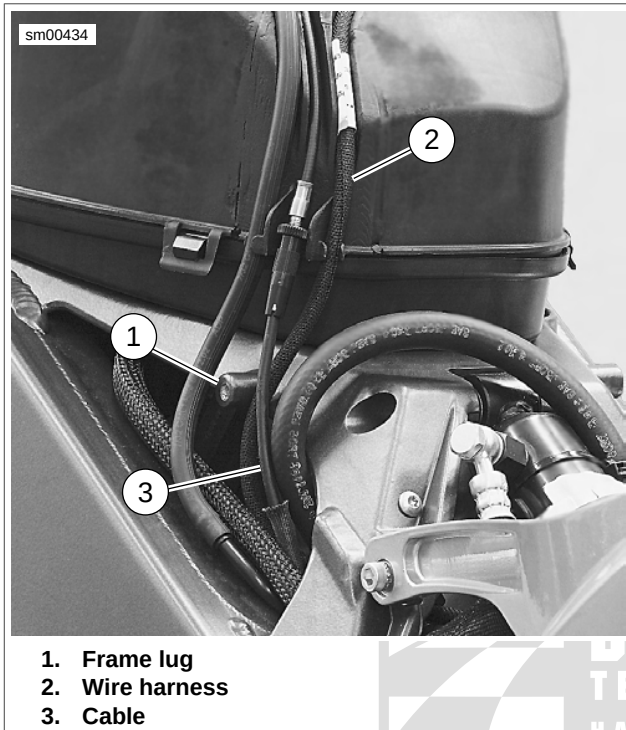

Figure 7-103. Correct Cable Routing Behind Frame Lug (Typical)
3. See Figure 7-103. Verify that the interactive exhaust wiring harness (2) is routed behind the frame lug (1) before installing air intake cover.